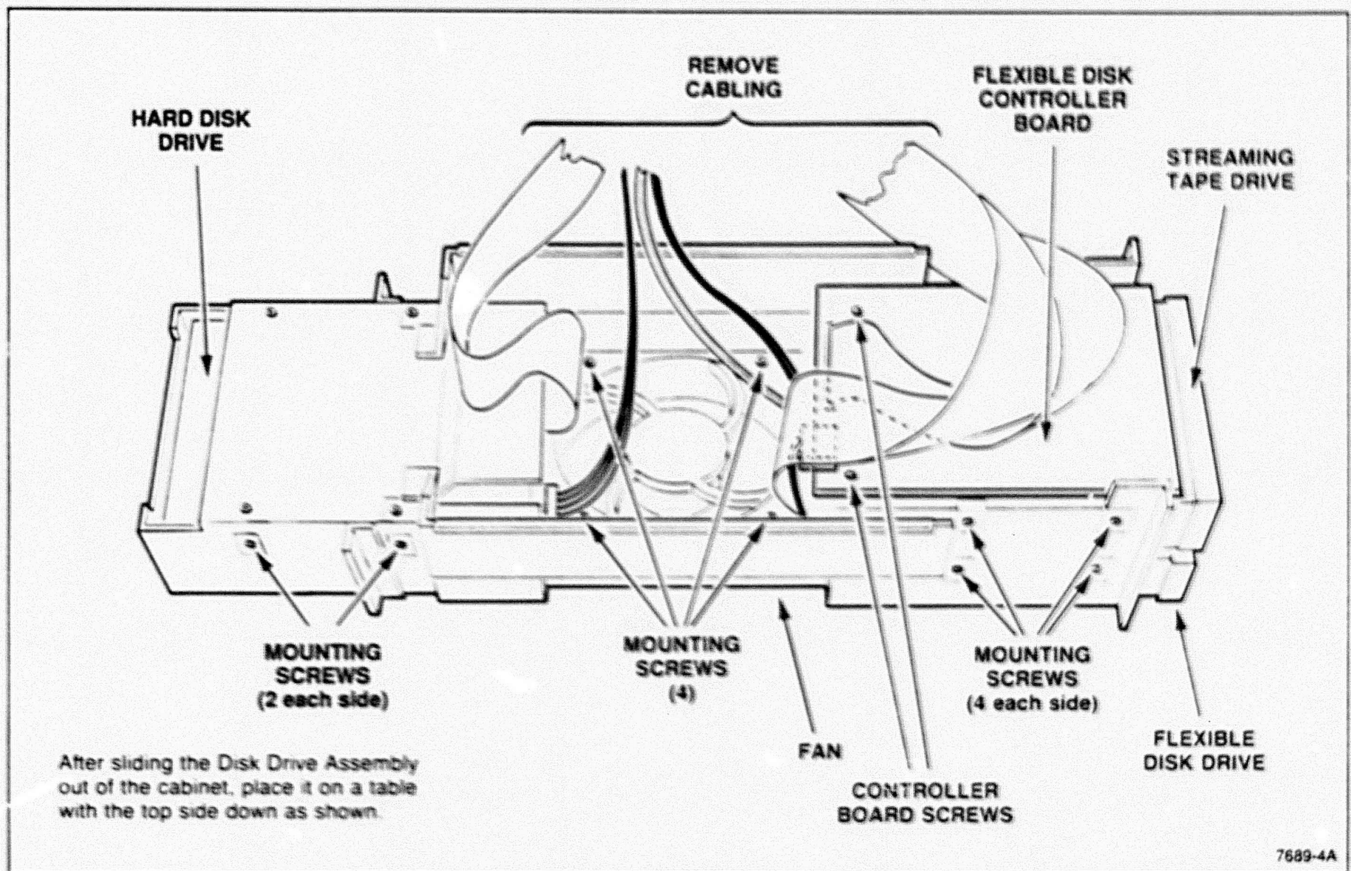

Figure 6. Device Locations in the Mass Storage Subassembly.
Refer to Figure 6 when performing this procedure.
5. Attach the insulator for the flexible disk controller board (342-0877-xx) to the subassembly. See Figure 6 for the flexible disk drive location.
- b. Remove the four mounting screws, two on each side of the housing (see Figure 6).
5. Position the hard disk in the appropriate chamber (see Figure 6) and secure with eight screws (211-0722-xx).
4. Position the streamer tape drive (119-3650-xx or 119-4120-xx) in the appropriate chamber (refer to Figure 6) and secure with four screws (211-0461-xx).